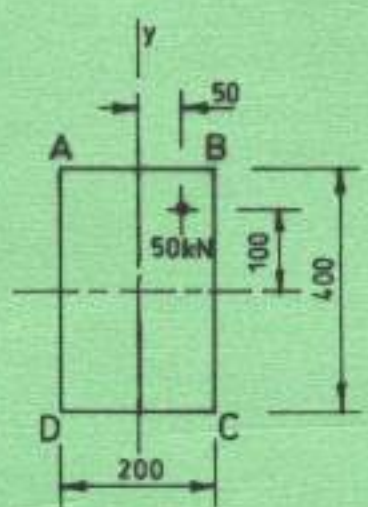

Fig.3
2. (a) A rectangular column of cross section 400×200 mm carries an eccentric load of 50 kN as shown in figure 3. Calculate the stresses at corners B and D. (10 marks)